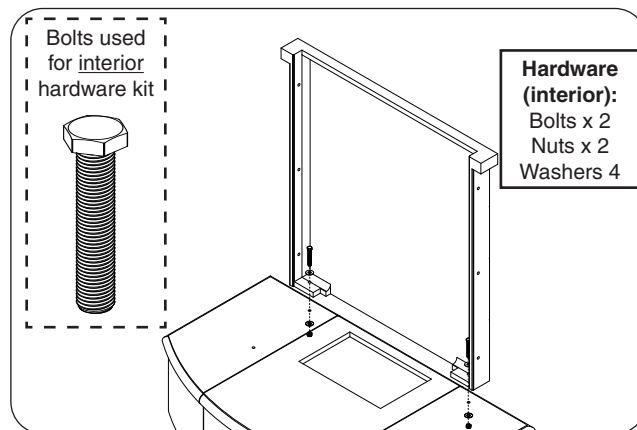

Fig. 24-1 Assemble body - rear wall
1. Place the body rear wall piece on top of the hearth. Carefully align the pilot holes, insert the hardware (interior hardware kit) in the order shown, and only hand tighten at this stage. See Fig. 24-1.